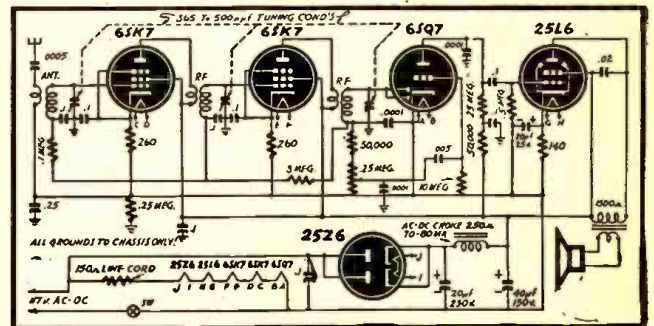

Fig. 3—T. R. F. receiver with two radio-frequency stages.
A. This diagram has been designed to meet your needs as specified. Any standard tuning condenser may be used. For single-dial control all sections should be alike. Antenna and R.F. coils may be standard or plug-in type. See Fig. 3.
wire down to the top of the cabinets, then attaching a small round piece of wood to the other end of the wire for my finger to rest on (See Fig. 3). This was attached by means of a small screw, the head of which acted as one of the contact points. The other contact point consisted of another wood screw immediately below the first, screwed into the top of the cabinet where the other connection was made. There was enough spring in the wire to hold the contacts apart unless my finger was resting upon it.